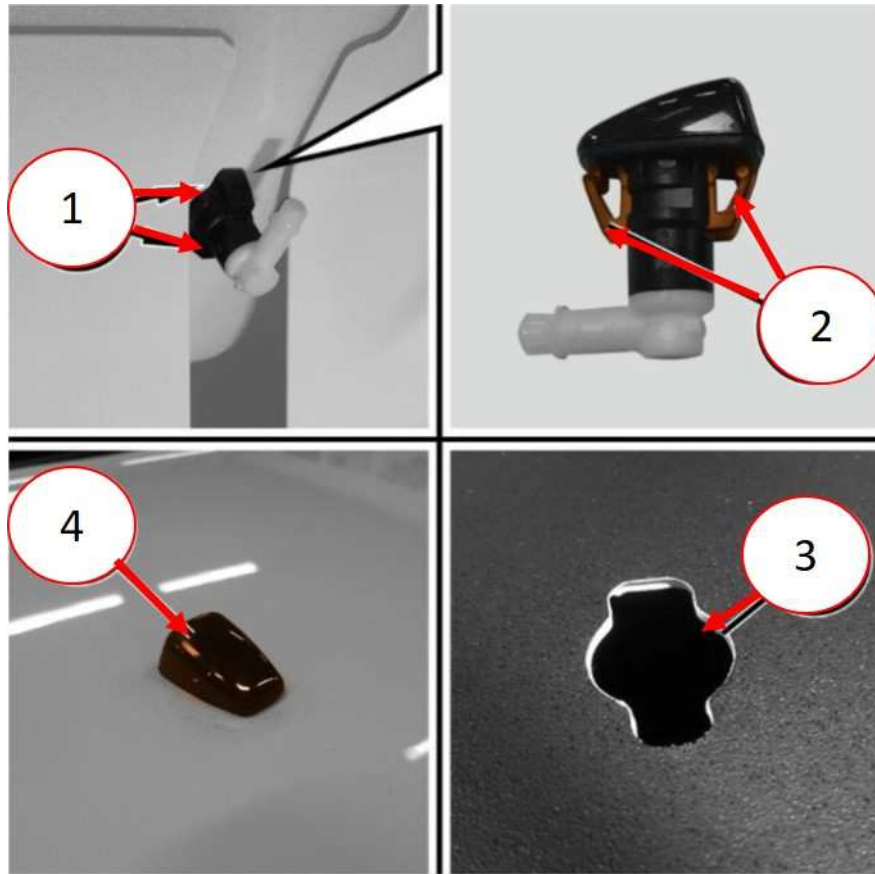

Fig. 2
5. Disconnect the windshield washer hose from the connectors (Fig. 2) .
6. Unclip the windshield washer hose from the hood and position it aside (Fig. 2) .
7. Remove the washer spray nozzles from the hood (Fig. 2) .